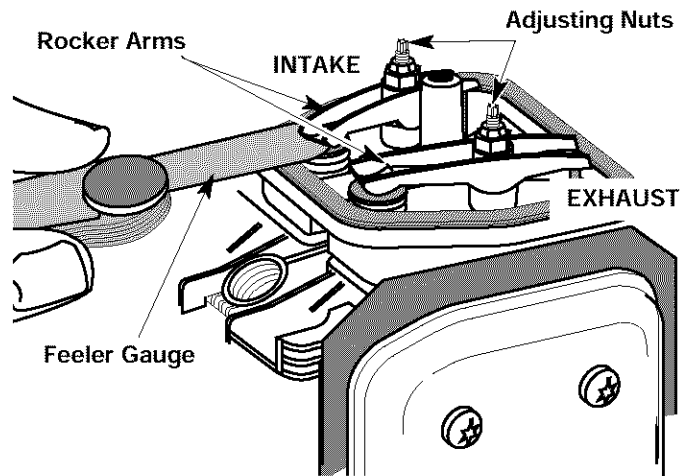

Fig. 45
- Slide the feeler gauge between the rocker arm and the valve return spring. Measure the clearance between the valve stem and rocker arm (Fig. 45). Measure both the intake and exhaust valves.
The recommended clearance for both intake and exhaust is .003 – .006 in. (.076 – 0.152 mm). Use a standard automotive .005 in. (0.127 mm) feeler gauge. The feeler gauge should slide between the rocker arm and valve stem with a slight amount of resistance, without binding. See Figure 45 and 46.